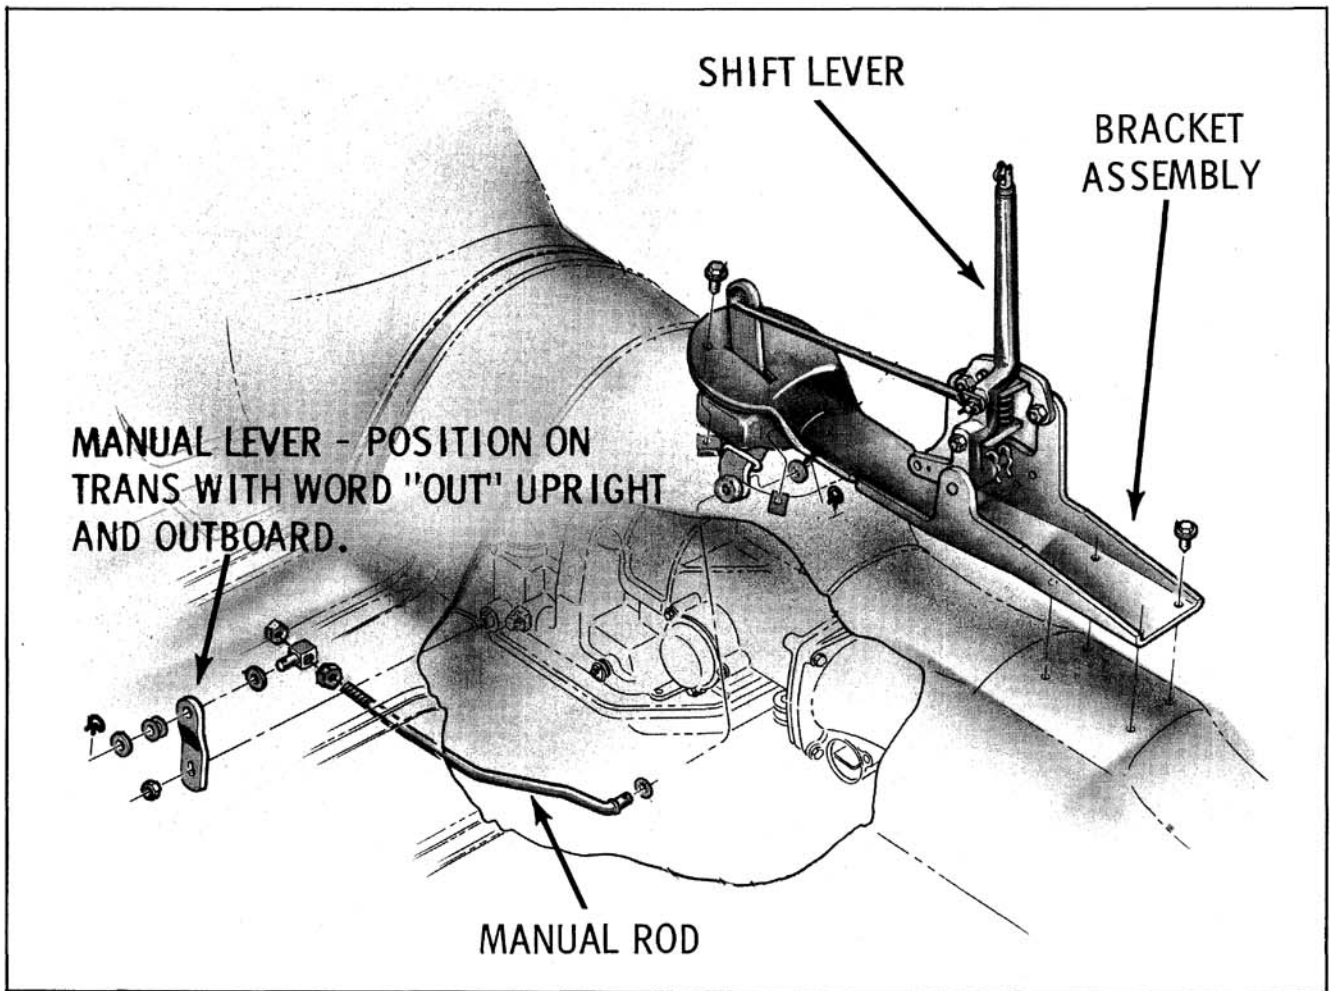

Fig. 12-119 Manual Rod
2. Remove the retainer from the manual rod and disengage rod from the manual lever. (Fig. 12-119)